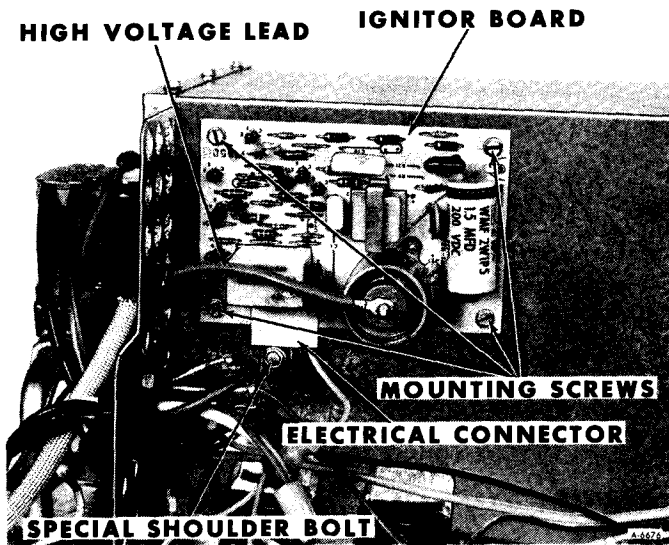

Figure 17—Location Of Ignitor Board
2. Remove special shoulder bolt (figure 17).
2. Install four ignitor board mounting screws (figure 17).